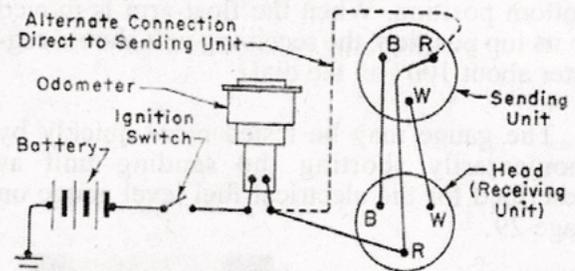

Fig. 21. Typical Wiring Circuit for Electrical Speedometer or Tachometer
a. Failure to Register. If the pointer of an electrical speedometer or tachometer stays at zero, check first for loose terminal connections in the wiring circuit (Fig. 21). Be sure the three connections on the head and the three on the sending unit are clean and tight. Jack up a rear wheel of the vehicle and run the engine with the transmission in high gear. Observe the speed indication.
Connect the flashlight bulb in series with terminals Band R (Fig. 21) of the sending unit and check for the following conditions: (1) If the bulb does not light, there is a broken wire in the circuit. (2) If the bulb alternately gets dim and bright about every two seconds or goes on and off, there is a ground in the sending unit.
Repeat the test by connecting the bulb between terminals Band R, and next between terminals B and HI (Fig. 21). The sending unit is satisfactory if the bulb burns steadily but slightly brighter when connected between terminals Band W than when connected between terminals Band R.
In the wiring circuit diagram (Fig. 21), an alternate connection for the odometer is illustrated. When tests are being made between terminals Band R with this type of equipment, the test light bulb should alternately get dim and bright since it is grounded through the odometer switch.
Remove the head from the vehicle and disassemble the compensator and resistor assembly. Connect the flashlight bulb in series between one terminal of the battery and terminal W (Fig. 21). Connect another lead wire between the other battery terminal and terminal B (Fig. 21). If the wires and the compensator are not broken and the regulator has a good contact, the bulb will light. As the regulator arm is moved clockwise, the bulb should burn more brightly and should be dimmer than when the arm is moved counterclockwise.